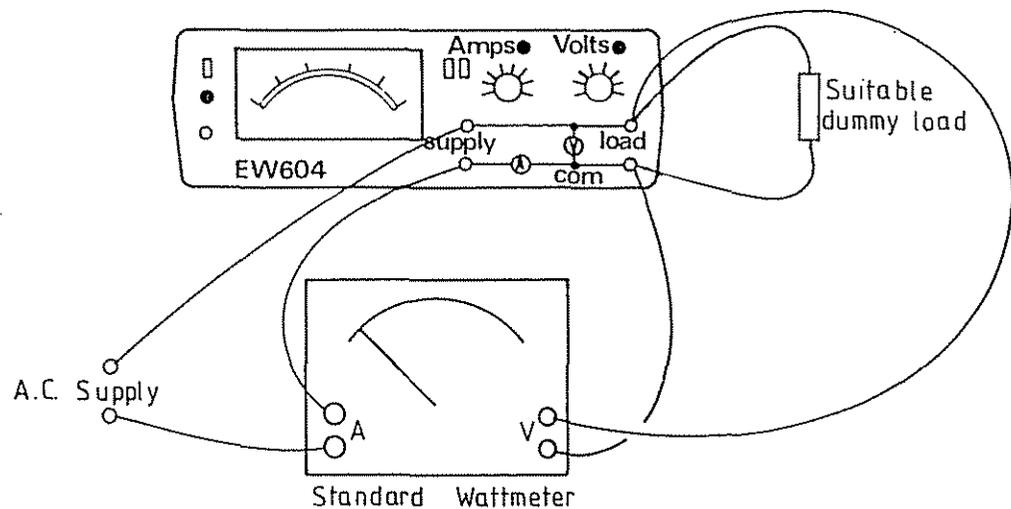

FIG 4.11
7. Check the sensitivity against a standard dynamometer wattmeter by using the layout connection of fig 4.11.
This connection of the EW604 to a standard wattmeter as shown in fig 4.11 enables a direct comparison of sensitivities to be made without the need for corrections due to internal power consumption.